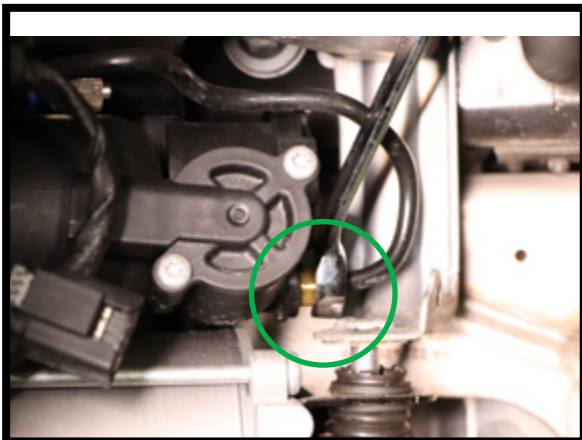

FIGURE 5
6. DISCONNECT THE AIR LINE FITTING ON THE COMPRESSOR. (FIGURES 5, 6)